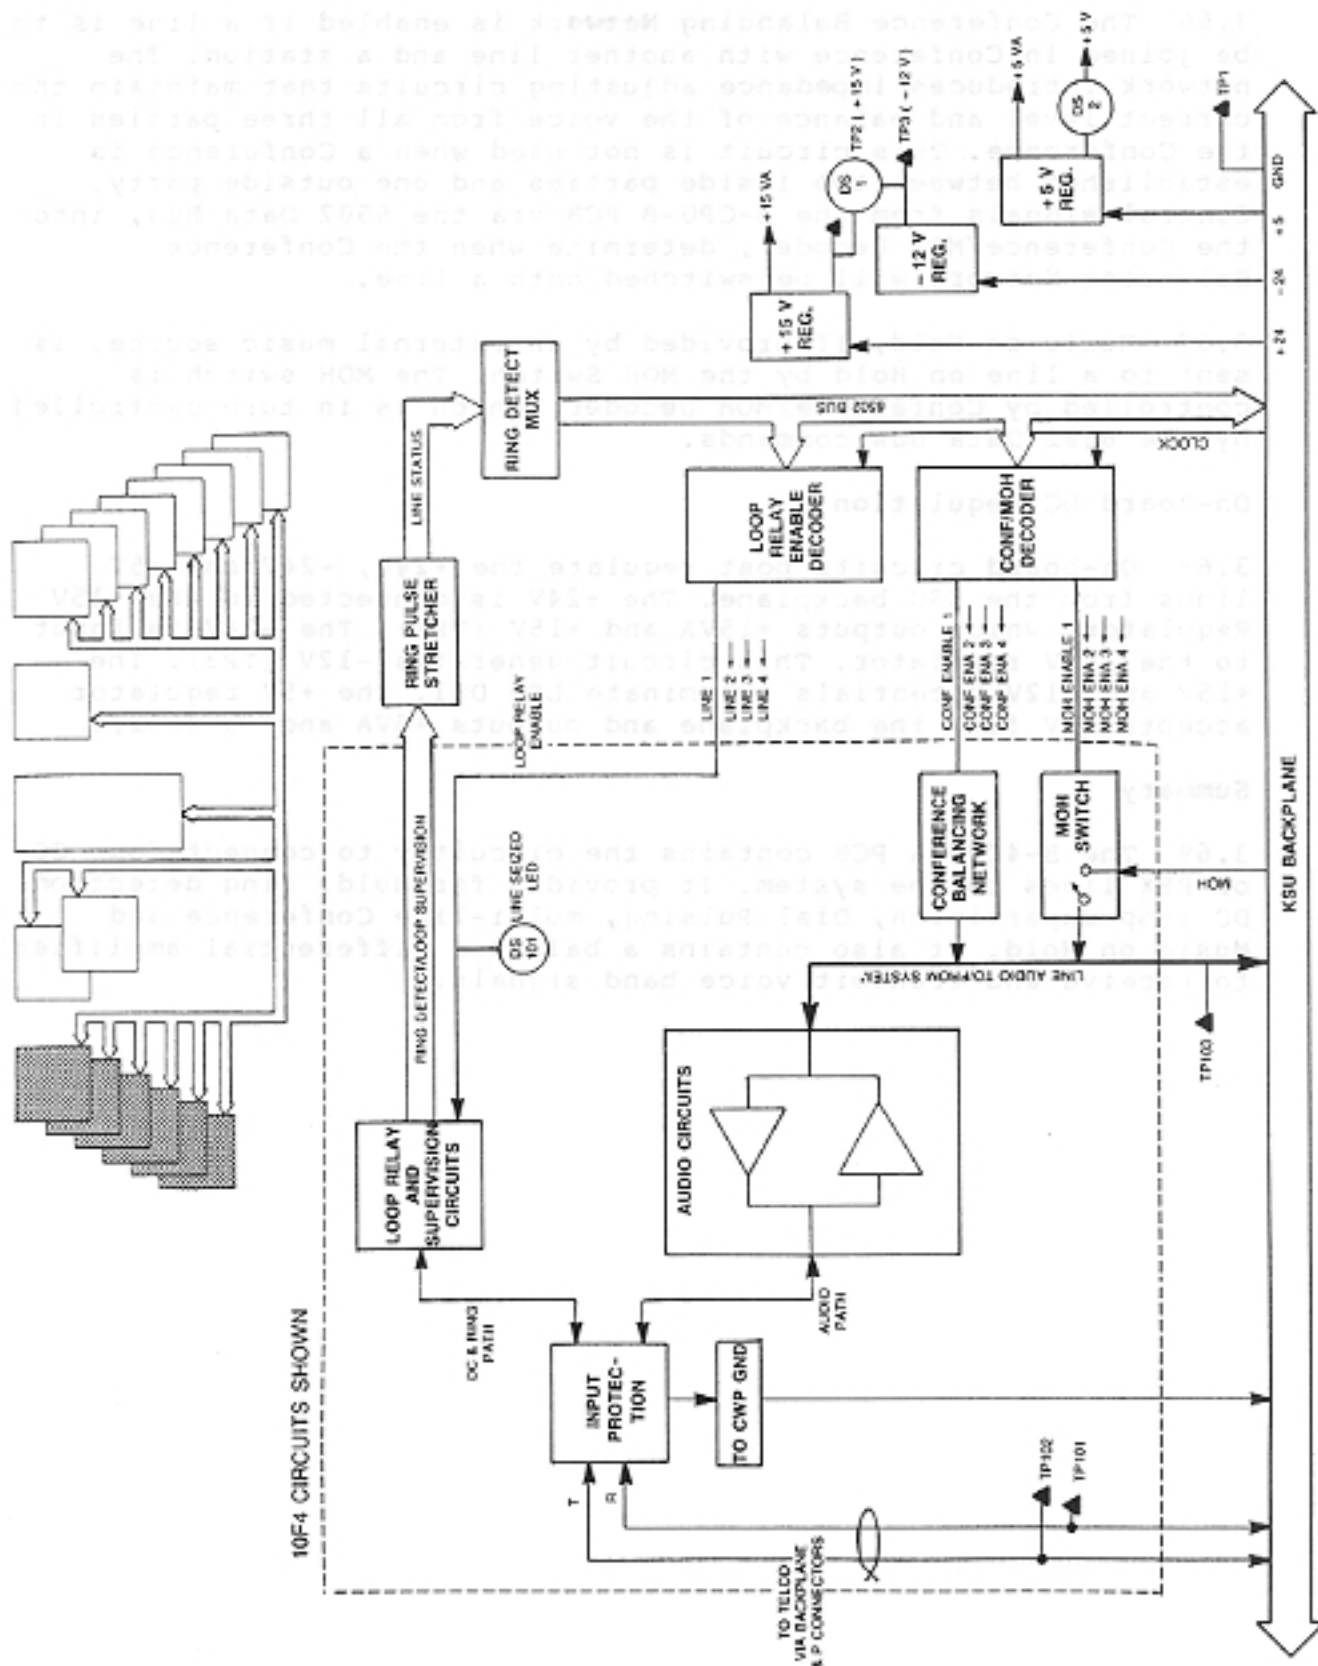

Figure 8-14 B-4COU-A CENTRAL OFFICE UNIT PCB BLOCK DIAGRAM, TCX-128
3.60 Each B-4COU-A PCB (Figure 8-14) contains the circuits to connect four Central Office or PBX lines to the system. This circuit board provides incoming ring detection, loop supervision, loop relay enable (line seize), Conference balancing, Music on Hold and audio amplifier circuits for each of the four lines. The B-4COU-A PCB is controlled by the 6502 traffic control processor, over the 6502 Data Bus.